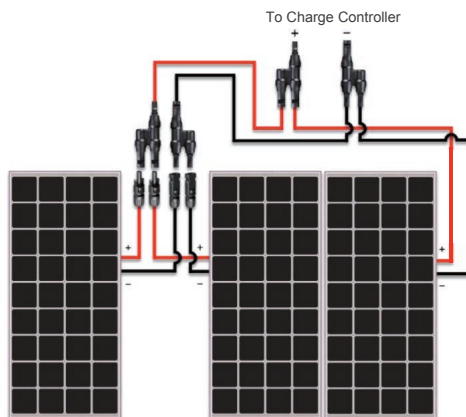

Figure 8.3 Three RNG-100D Panels in parallel
Three solar panels is the maximum amount of panels that can be connected in parallel if they are adjacent to one another, without using extra cabling. **Fig. 8.3** above shows the arrangement for connecting three solar panels in parallel. Remember that this arrangement is applicable if the three solar panels are to be mounted adjacent to one another. This connection requires **two (2)** pairs of Solar Y Branch Connectors. When one or multiple panels are mounted at different locations- that is, separated by a distance, the panels need to be extended with Solar Connector Extension Cables (sold separately).